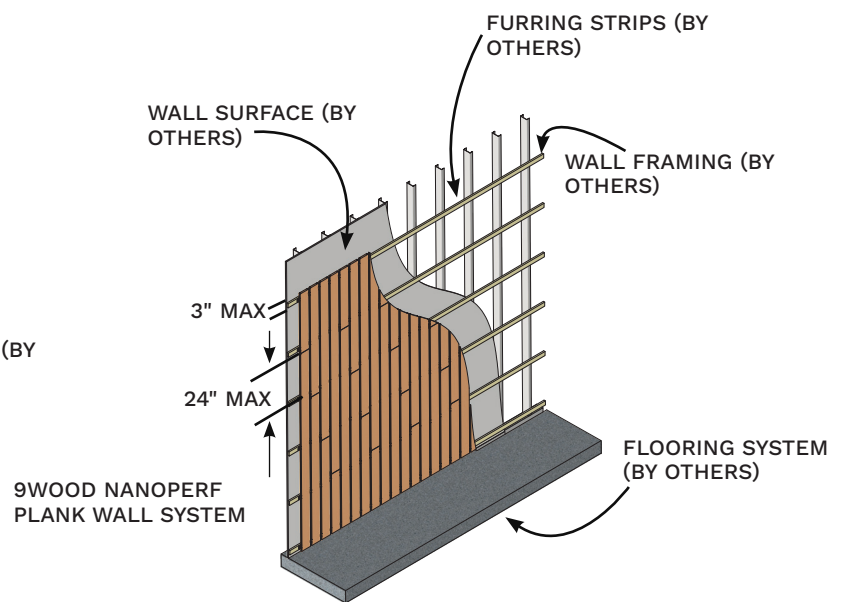
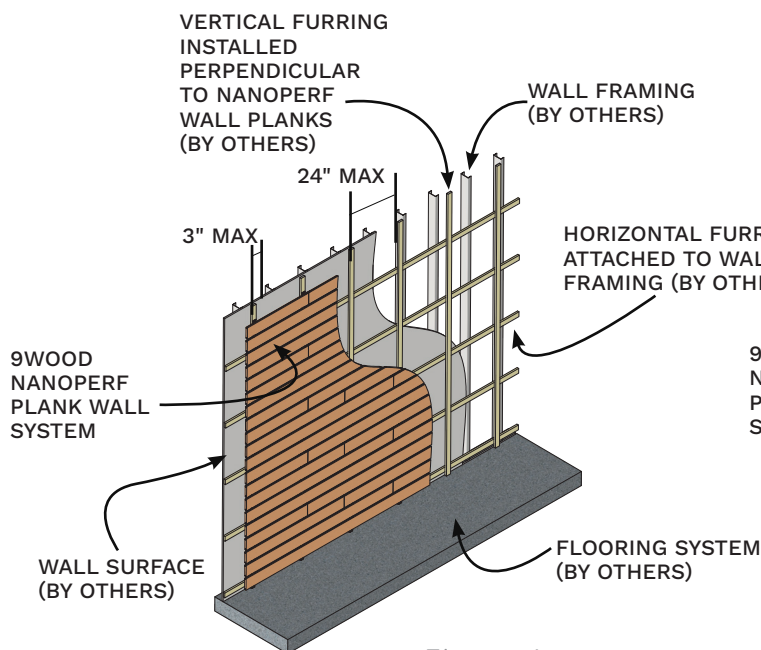
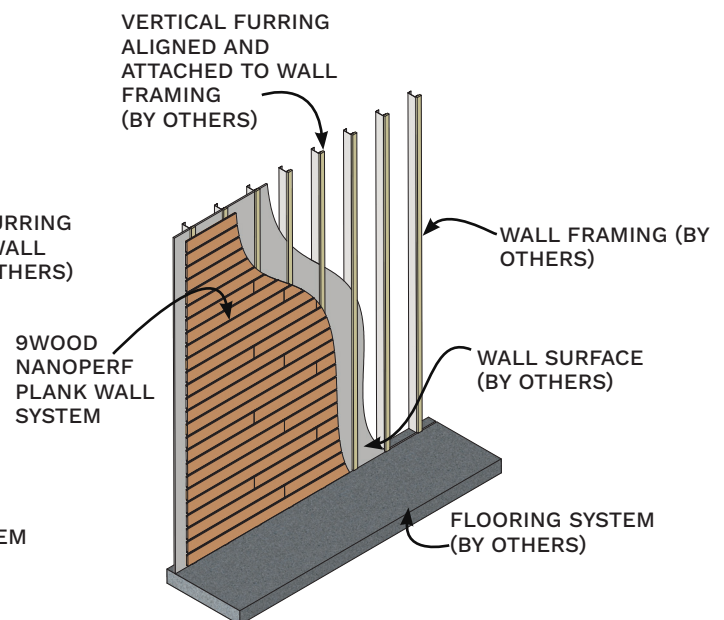

Figure 3
Figure 4
Figure 5
- Vertical wood members require horizontal furring strips (see Figure 3)
- Horizontal wood members require vertical furring strips (see Figure 4 and Figure 5).
- If wall framing and plank direction are not compatible with furring layout, install a second layer or lathe (see Figure 4)
- Install furring strips with a maximum of 24" on center spacing, leaving no more than a 3" cantilever if needed (see Figure 3, Figure 4, and Figure 5).